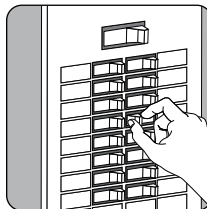

FIG.2 BREAKER PANEL
*FIG. 2.* Place either the main (Master) switch to the "OFF" position, cutting off power to your entire home OR turn off the individual switch that provides power to where the fixture will be installed.